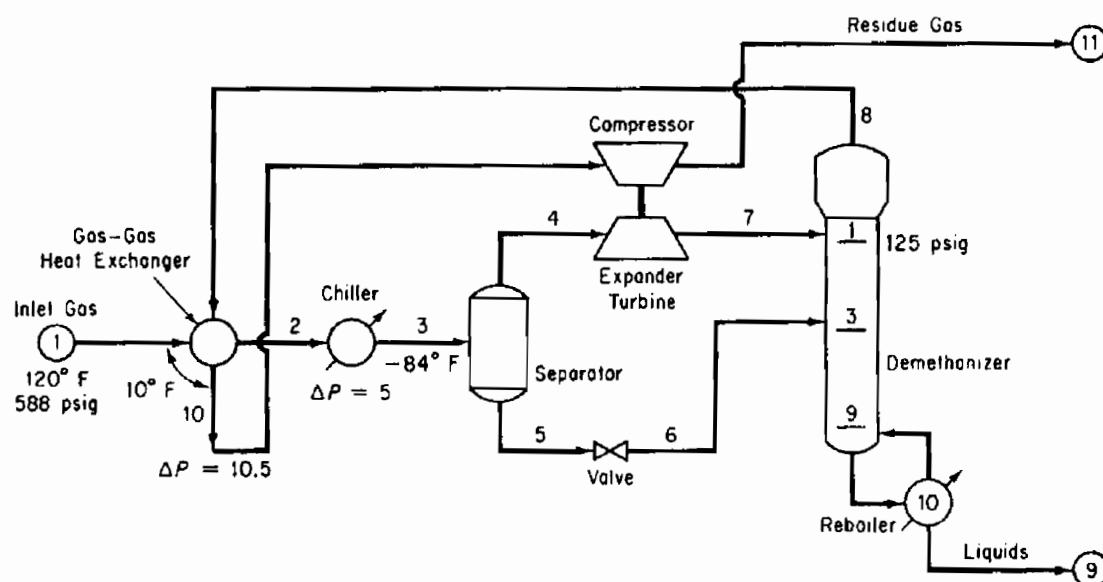

Figure P31.15
- 31.15** A demethanizer tower is used in a refinery to separate natural gas from a light hydrocarbon gas mixture stream (1) having the composition listed below. However, initial calculations show that there is considerable energy wastage in the process. A proposed improved system is outlined in Figure P31.15. Calculate the temperature (°F), pressure (psig), and composition (lb mol/hr) of all the process streams in the proposed system.
Carry out the solution of the material and energy balances for the flowsheet in Figure P31.15, determine the component and total mole flows, and determine the enthalpy flows for each stream. Also find the heat duty of each heat exchanger.